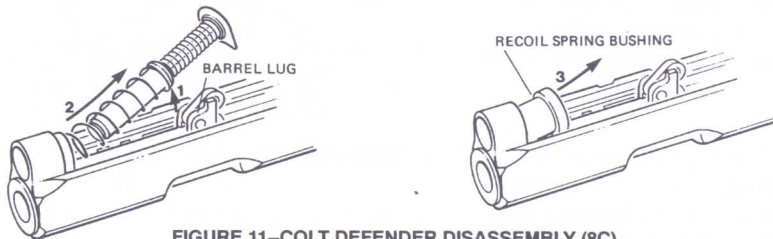

FIGURE 11—COLT DEFENDER DISASSEMBLY (8C)
8. **(C)** Compress and remove recoil spring assembly, then separate outer spring from it. Lift out recoil spring bushing; See Figure 11.